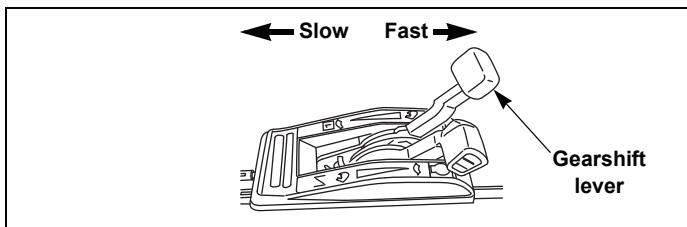

Fig. 4-28
6. Adjust the mowing speed with the gearshift lever. Fig. 4-28